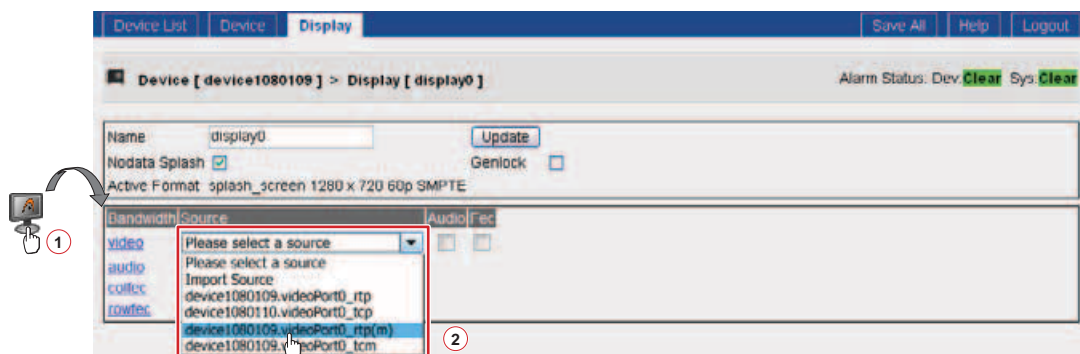

Figure 20. Source Configuration
If the device reports “Device is streaming data”, log on to all decoders that are connected to this encoder, one at a time, and clear the connection (click **Please select a source** on the display page (see **figure 20** on the next page).
4. Click the display icon that appears in the configuration box after you have created a display in step 3 (① in figure 20). The display configuration page appears.